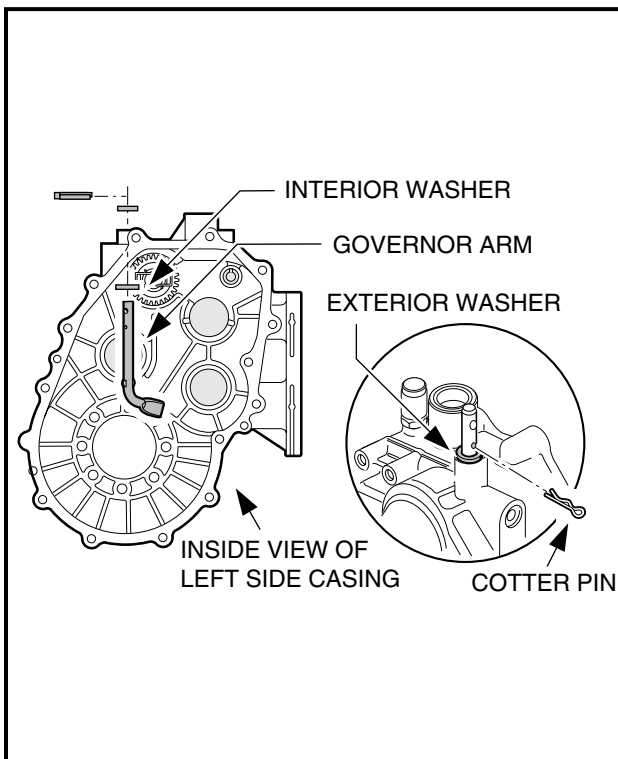

Figure 6-46 Pivot Arm
5. Position the interior washer on the pivot arm and install the pivot arm and washer into the left (driver side) case (**Figure 6-46, Page 6-22**). Install the exterior washer and cotter pin on the pivot arm outside the case. Bend the legs of the cotter pin.